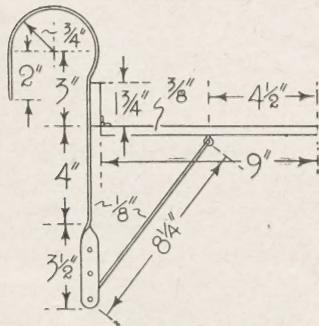

Fig. 1—Side view with dimensions
Having procured the bars from a local ironmonger or hardware store, bend them to the dimensions provided at Fig. 1 with (1) two iron sash cramps or (2) one sash cramp and an iron vice or (3) a vice and a wrench.